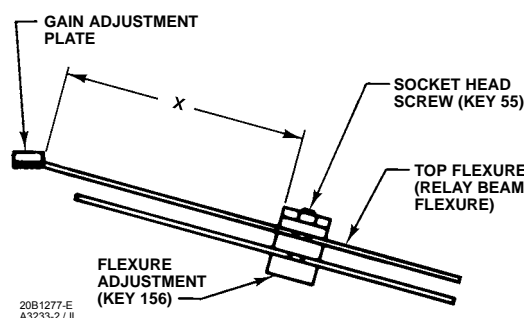

Figure 14. Minor Loop Gain Adjustment
Figure 13 shows the minor loop gain adjustment location. As shown in figure 14, the adjustment is made by moving the flexure adjustment (key 156) along the top flexure.
The table in figure 14 and a label inside the positioner cover (key 41, figure 28) recommend flexure adjustment starting positions for various actuator types. Start with the flexure adjustment set to the recommended starting distance from the gain adjustment plate, the X dimension in figure 14. To adjust the minor loop gain, proceed as follows:
3. Loosen the flexure adjustment socket head screw (key 55, figure 14) and slide the flexure adjustment on the flexures to increase or decrease the X dimension. Moving the flexure adjustment in the direction of the arrow on the top flexure (decreasing the X dimension) slows the positioner response. Moving the flexure adjustment in the opposite direction speeds up the positioner response.